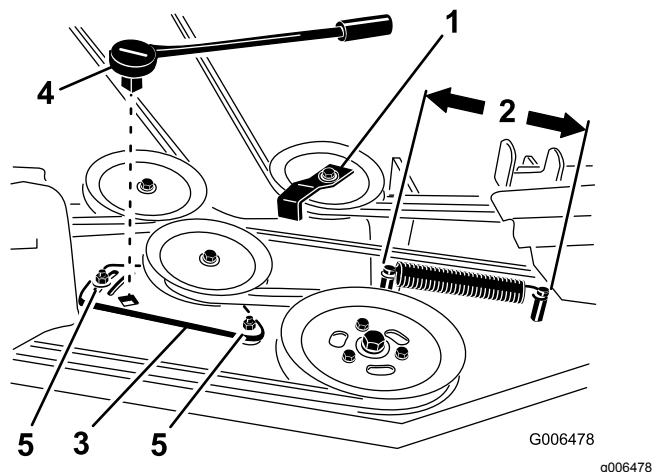

Figure 77
4. For 72 inch mowers, loosen the idler plate bolts holding the idler plate (Figure 77).
6. Remove the belt guide on the spring-loaded idler pulley shown in Figure 75 and Figure 77.
9. Install the belt guide on the spring-loaded idler at a 45 degree angle as shown in Figure 75 and Figure 77. Torque the bolt to 37 to 45 N·m (27 to 33 ft-lb).
10. Install the idler spring to the 2 posts (Figure 75 and Figure 77).
4. Measure the spring length (Figure 77). If the spring length is between 25.4 to 26 cm (10 to 10-1/4 inches), from post to post, no adjustment is needed.
5. Loosen the bolts holding the idler plate (Figure 77).
6. Insert a ratchet or breaker bar into the square hole in the idler plate to adjust the tension (Figure 77).
7. Rotate the ratchet or breaker bar to move the idler plate until the idler spring is between 25.4 to 26 cm (10 to 10-1/4 inches) from post to post as shown in Figure 77.
- While holding the belt tension and spring length, tighten the idler plate bolts that secure the idler plate (Figure 77).